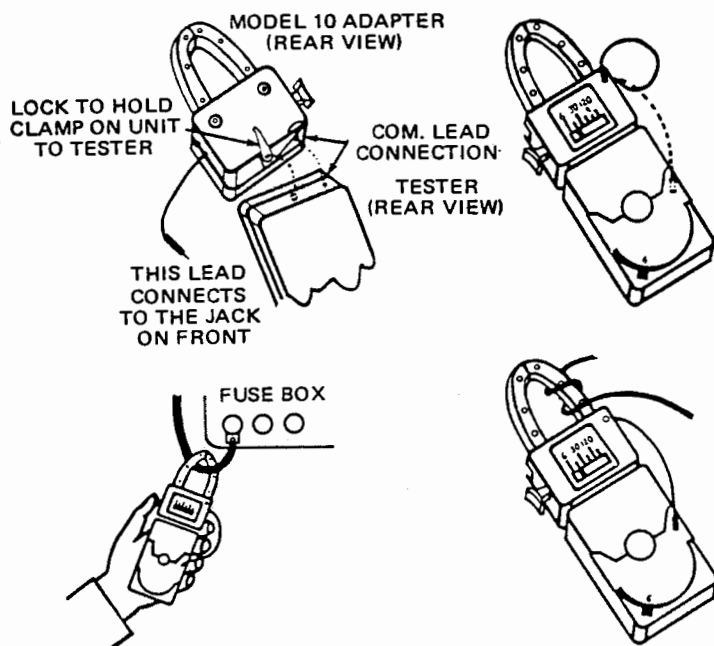

FIGURE 7 — Ammeter Adapter
- F. Using the Model 10 AC Adapter. (Refer to Figure 7).